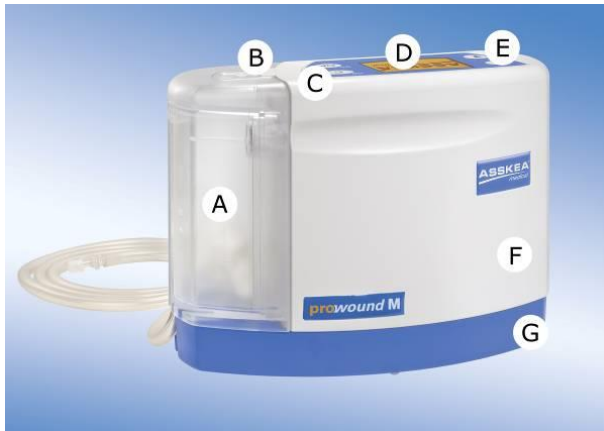

Fig. 1:
Use the power input receptacle of the **ASSKEA proound**® M (Chapter 2.1.1, Fig.1 (G)) or the power input receptacle of the **ASSKEA proound**® S (Chapter 2.1.3, Fig.2 (G)) to connect the device to the mains supply via the supplied power supply unit (Type: FW 7555M/12) for charging or operation as required.